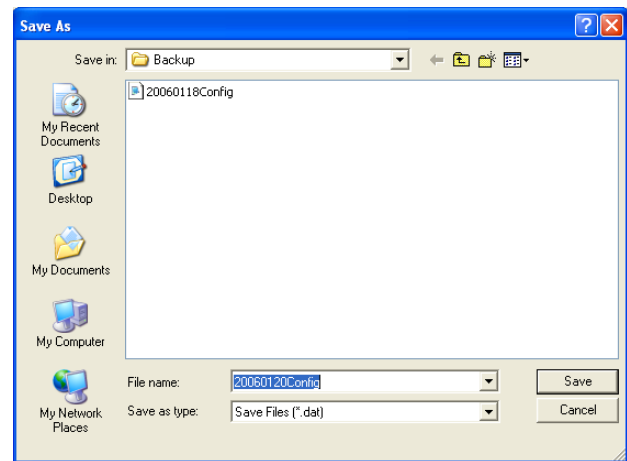

figure 8.18: “Save schedule as” window
- If you click Yes, a standard Save As window will appear (see figure 8.18). Select the area where you want to save the configuration file, and then click Save.